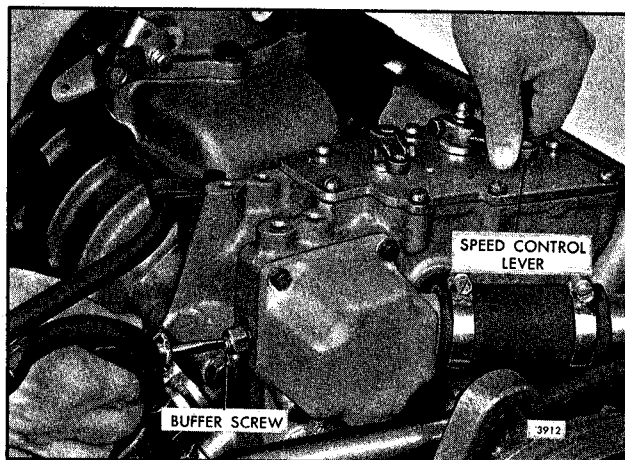

Fig. 6 - Adjusting Buffer Screw
1. With the engine running at normal operating temperature, turn the buffer screw in (Fig. 6) so it contacts the differential lever as lightly as possible and still eliminates the engine roll.